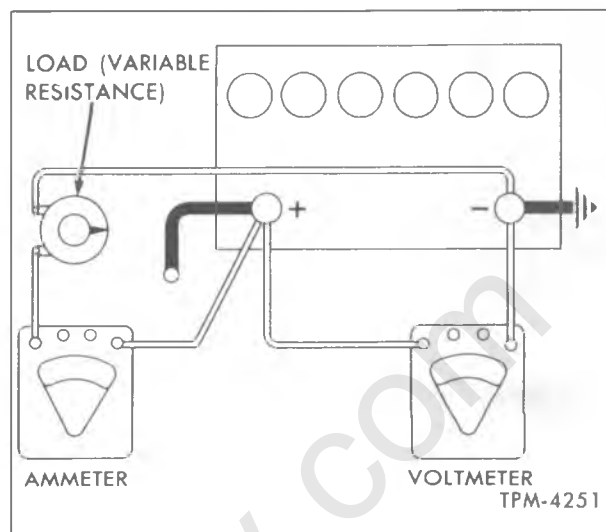

Figure 2—Battery Capacity Test
1. Connect positive voltmeter and ammeter leads to battery positive post and negative voltmeter and ammeter leads to battery negative post (fig. 2).
Good Battery (Fig. 2, View A)
Good Battery (Fig. 2, View B)
Replace Battery (Fig. 2, View C)
Discharged Battery (Fig. 2, View D)